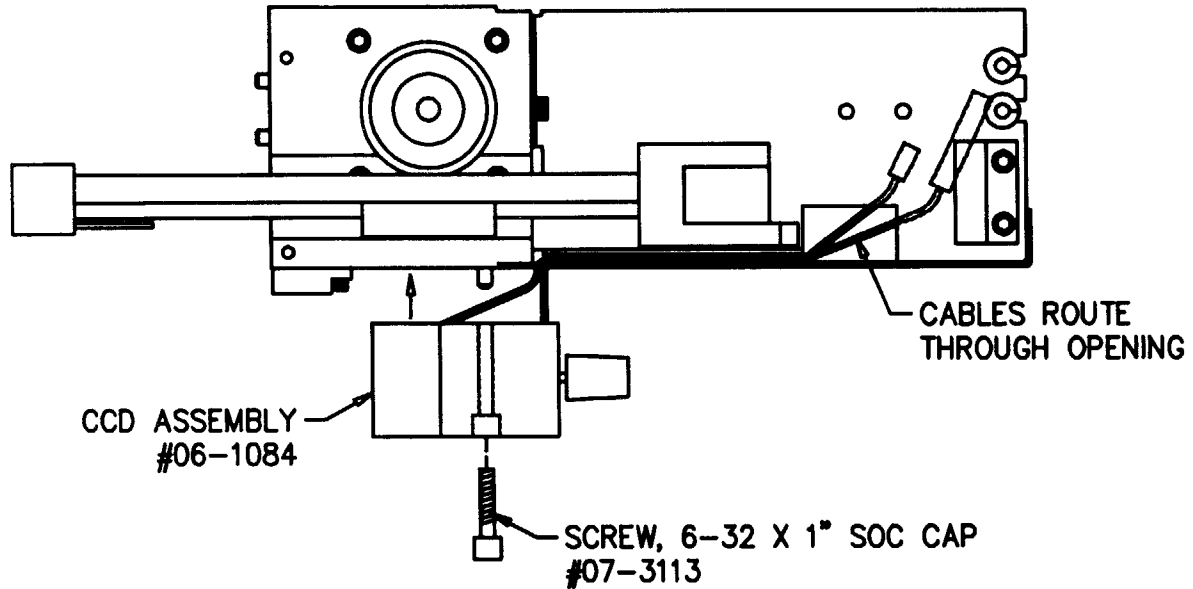

Figure 3-22. CCD Assembly Removal.
Refer to figure 3-22 for the following:
3. Lower the Z Probe Assembly, as shown in figure 3-22, so that the cables may be slid out of the Z Cover Bracket.